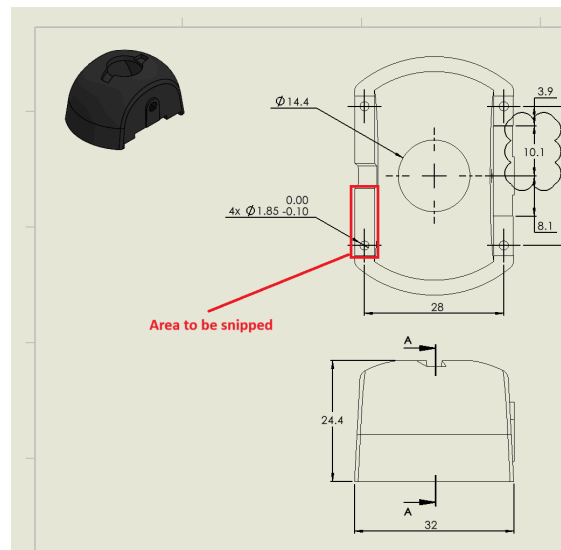
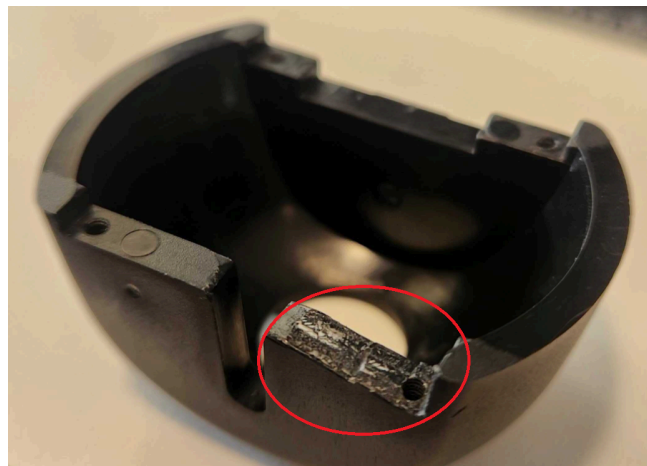

Figure 6: Area to be snipped highlighted on drawing
Figure 7: Camera mount after snipping
4. Clip at least 1-2 mm of material from the surface shown in Figure 6 to achieve the result shown in Figure 7, then fasten the camera into the mount with the remaining three fasteners.